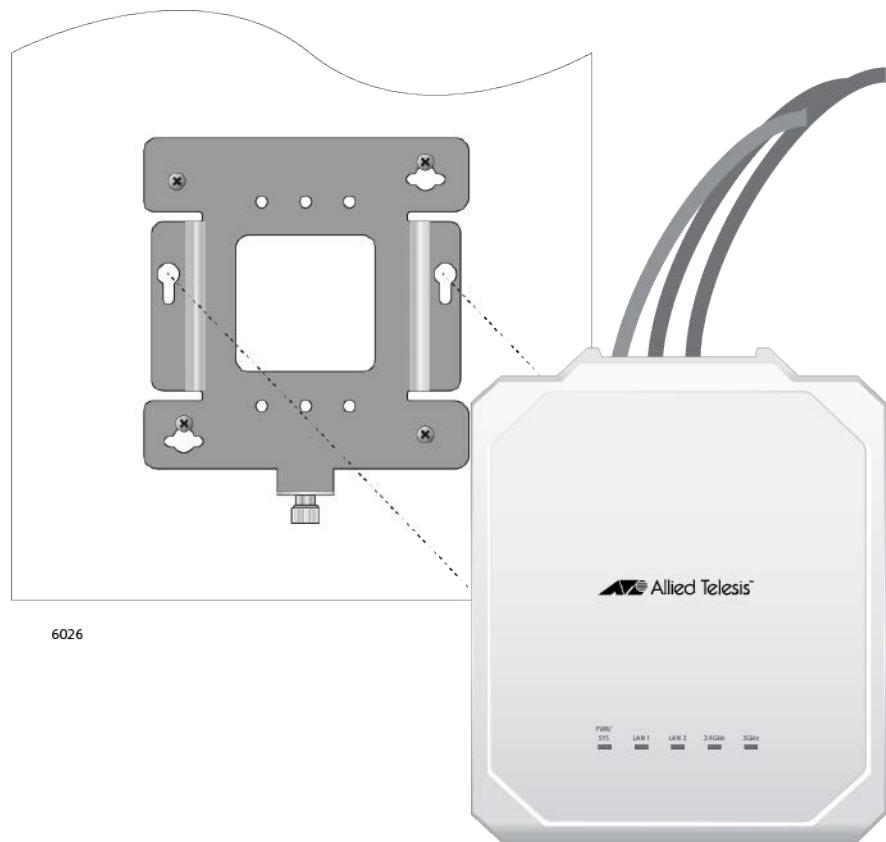

Figure 26. Installing the Access Point on the Mounting Bracket
1. Align the bottom of the access point over the bracket so that the two screws on the bottom of the device fit into the bracket keyholes. Refer to Figure 26. (These are the two access point chassis screws installed in “Pre-fitting the Mounting Bracket on the Access Point” on page 40.)